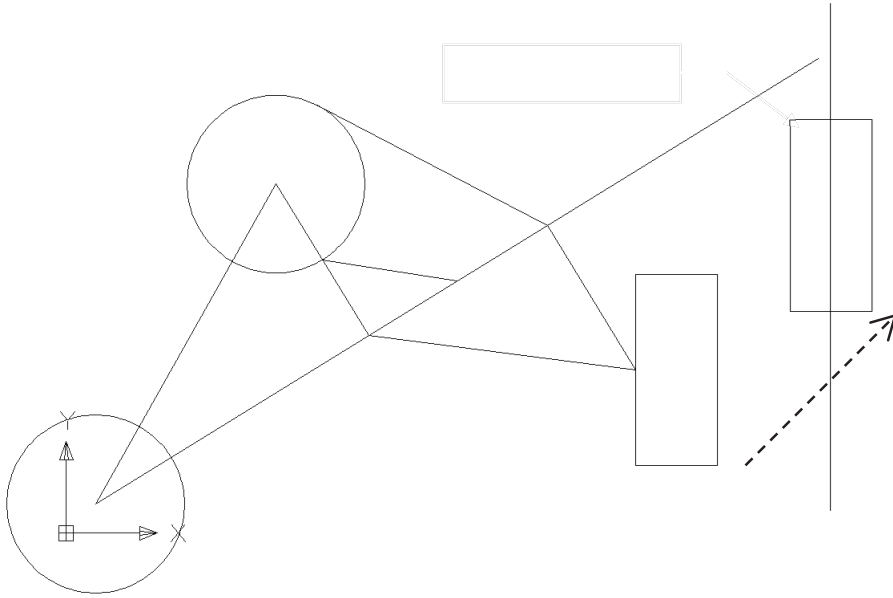

FIGURE 2-3.5 Copied rectangle. Dashed line represents the distance and angle of displacement.
14. *The following will be entered via the on-screen Dynamic Input:* Type **18**, press **Tab** then type **45** and press **Enter**. (See Figure 2-3.5 and on-screen prompts below.) Finally, press **Enter** to finish the command.
The **Move** command works exactly like the **Copy** command except, of course, you move the entities rather than copy them. Given the similarity to the previous command covered, the **Move** command will not be covered here. You are encouraged to try it yourself. Use the **Undo** command to get back to the drawing shown in Figure 2-3.5 before proceeding if you decide to try the **Move** command.